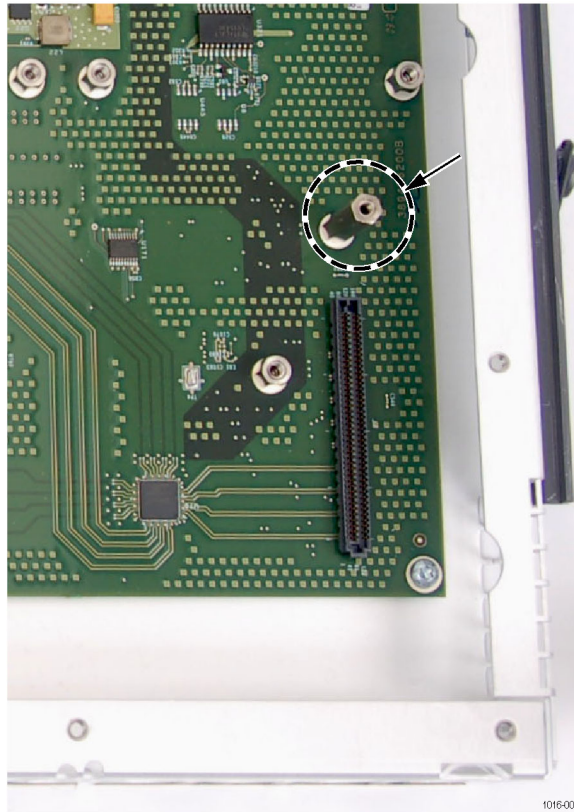

Figure 10: Audio post in CPS board location
2. If an audio board was present, temporarily remove the post from where the Option CPS board installs. Save the post for reinstallation. (See Figure 10.)